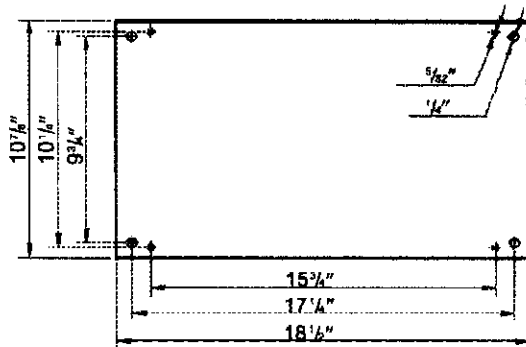

Figure 3 - Installing Jointer/Planer
- The  $\frac{1}{4}$ " holes (see Figure 3) are intended for installing jointer/planer using bolts, lock washers and hex nuts.
- The  $\frac{5}{16}$ " holes (see Figure 3) are intended for installing jointer/planer using wood screws.